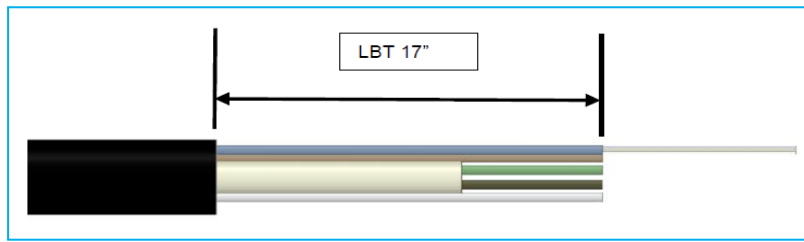

Figure 12
5.2.3.8 Mark buffer tube 17" from sheath opening, ring cut and remove tubing. See Figure 12.